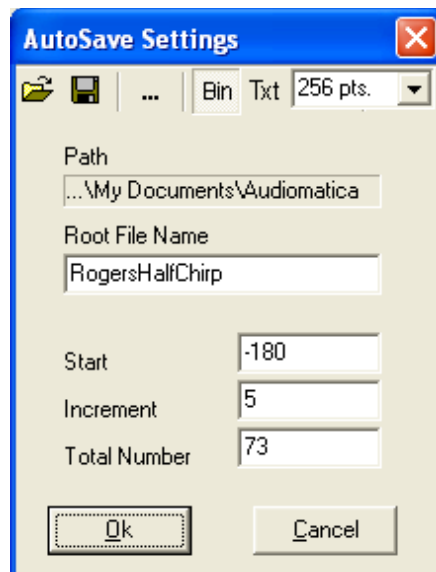

Figure 12.11
Let's start with setting the autosave function (see also 5.3). Pressing **Alt-F2** we recall the Autosave Setting dialog (fig.12.11); here we input the desired filename ('RogersHalfChirp'), start (-180) increment (5) and total (73) values.